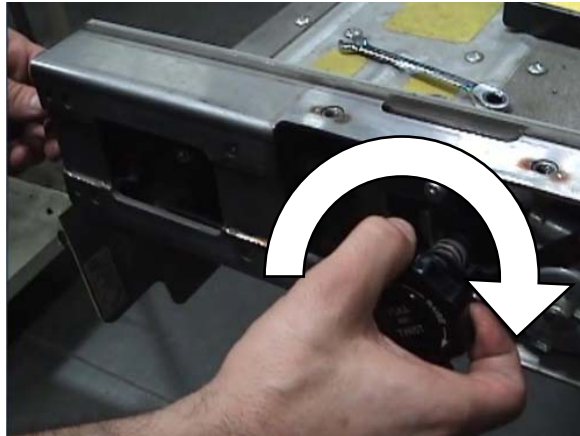

FIGURE 4-18: TURN MANUAL RELEASE KNOB (CW) TO LOCKED POSITION
- 7) Refer to **Figure 4-18**. Rotate Manual Release Knob Clockwise (CW) to return Rollstop mechanism to the locked position. Returning Rollstop mechanism to locked position also moves Actuating Linkage out of the way for Rollstop adjustment.